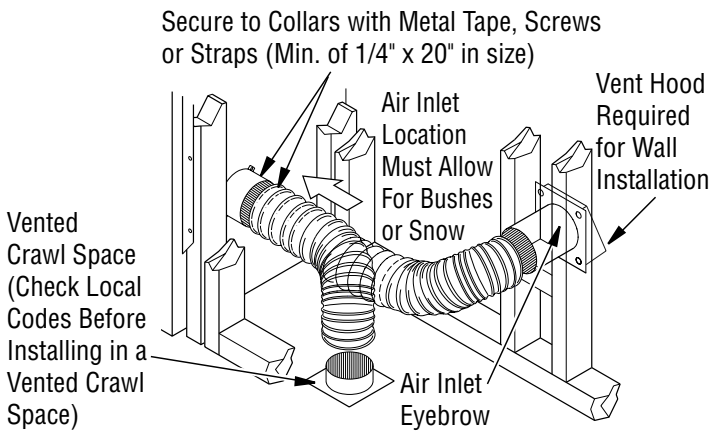

Figure 10 - Outside Air Kit
4. All pipe connections between the offset and return must be secured with two screws on the outer pipe only (see Figure 10). Do not penetrate the inner stainless.
5. One (1) 6" pipe section adapter (included with offset elbow F5169 and F5170) must be installed prior to return elbow any time a pipe section is installed between offset and return elbows.